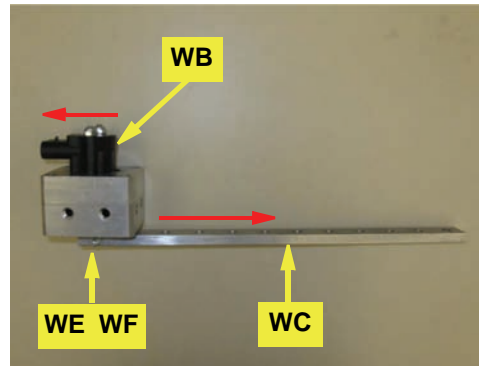

Figure 1c: Attached WAS arm
- Attach the WAS arm **WC** to the WAS assembly using the provided hardware **WE** (nut) and **WF** (bolt). The arm should be mounted in the opposite direction to the WAS wire connector **WB** (Figure 1c).